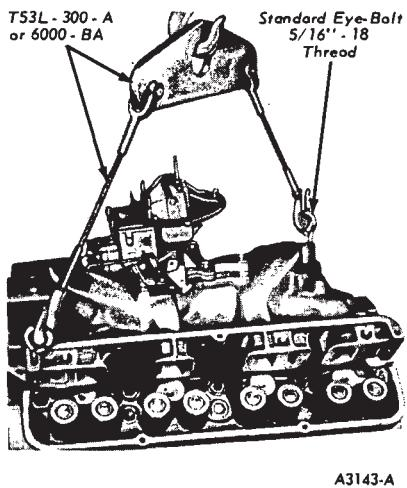

FIG. 9—Removing or Installing Intake Manifold
12. Install standard eye bolts with 5/16-18 threads in the left front and right rear rocker arm cover screw holes and attach the engine lifting sling (Fig. 9).
6. Use a hoist to lower the intake manifold on the engine (Fig. 9), and at the same time engage the coolant outlet nipple with the water pump bypass hose.